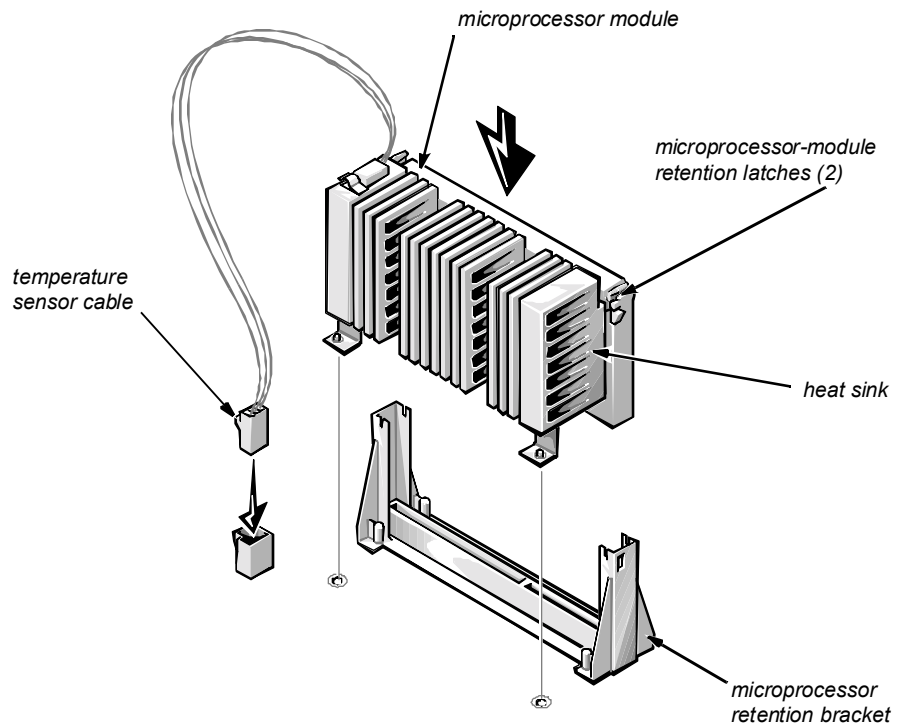

Figure 5. Installing a Microprocessor Module
- c. Lower the microprocessor module into the microprocessor retention bracket, and press firmly on the top of the module until the module is fully seated and the retention latches snap into position (see Figure 5).